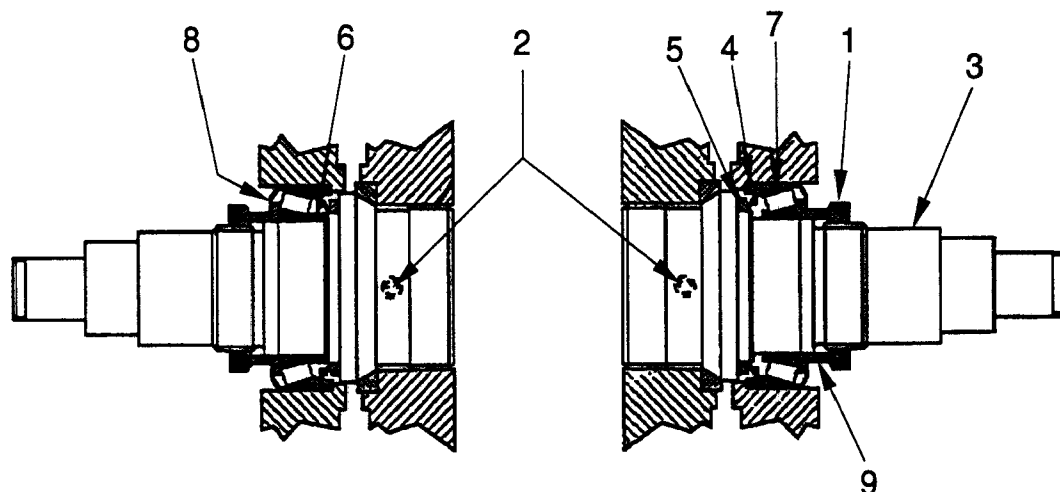

Figure 3 Joint axes 2 and 3.
5. Remove the KM nut (1) on each shaft. See Figure 3.
6. Remove the stop screws (2) in the lower arm. See Figure 3.
7. Unscrew the shafts (3). The bearing is pressed out with the shaft. See Figure 3.
NOTE! Mount the left side first, complete, robot seen from behind! See Figure 3.